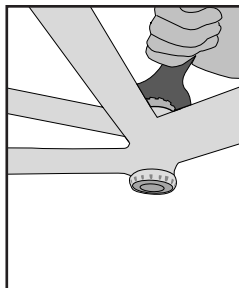

Figure 6 Tighten the left cup
5. Tighten the left cup to 430 lb•in (17-19 N•m) (Figure 6).